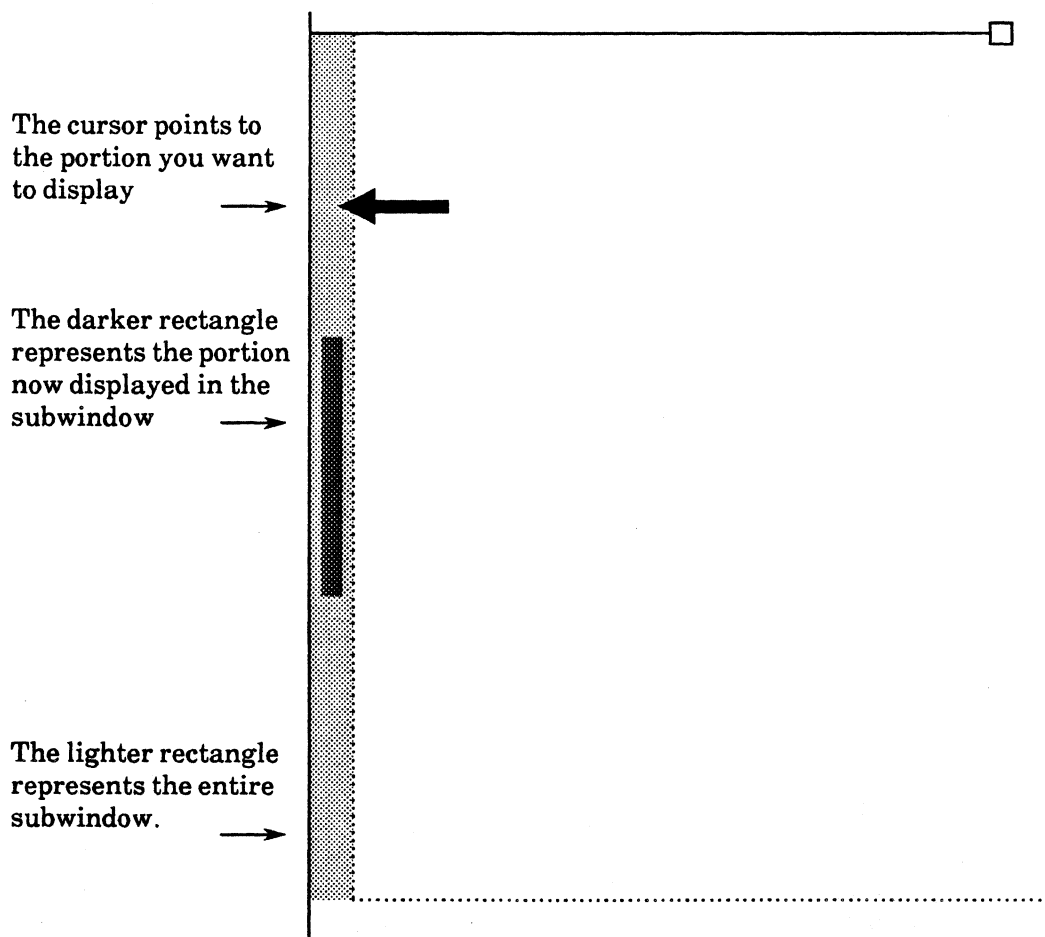

Figure 3.10
- 3) The cursor changes to a thick arrow pointing at the scrollbar. See figure 3.10. Remember, the scrollbar's lighter rectangle represents the entire subwindow, and the darker rectangle represents the portion of the subwindow you are viewing.